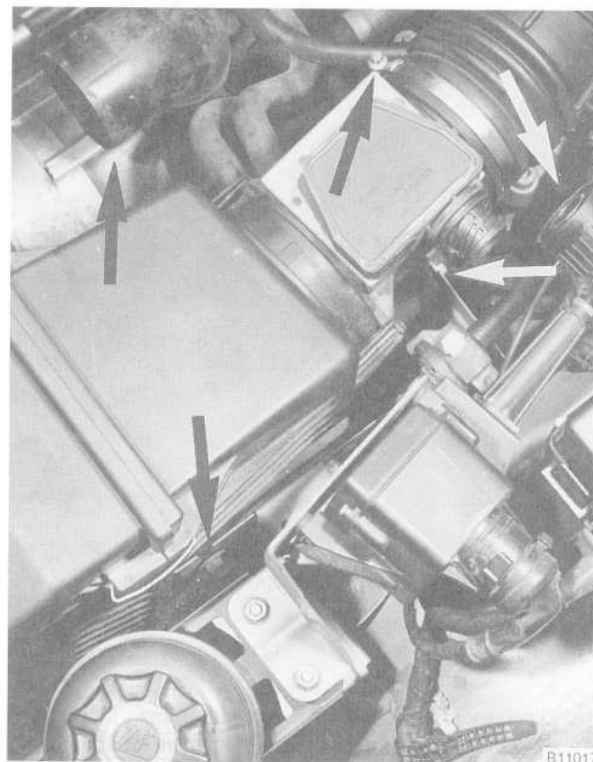

Fig. 11. Alternator cooling air duct, air mass sensor connector, air duct hose clamp, and air cleaner housing mounting bolts (arrows).
8. Remove alternator cooling air duct. Remove air cleaner housing complete with air mass sensor from the car, disconnecting and labeling connectors, ducting and hoses as necessary. See Fig. 11.